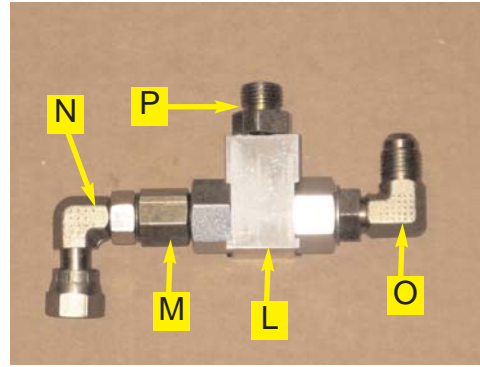

Figure 4a. Pre-assembled load sense shuttle.
- a. Pre-assemble the load sense shuttle (**L**) with adapter fittings **M**, **N**, **O** and **P** as shown. (Figure 4a.)
**NOTE:** Make sure the shuttle is assembled as shown in Figure 4a.